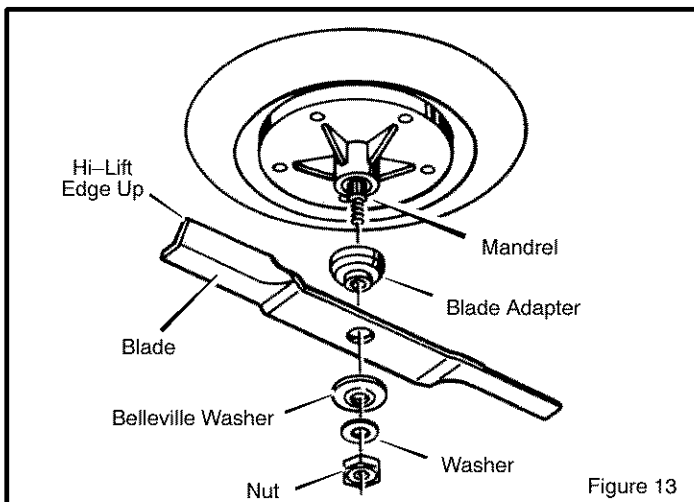

Figure 13
4. Remove the **nut, washers, and blade** (Figure 13).
1. Mount the **blade** and **blade adapter** on the **mandrel** (Figure 13).